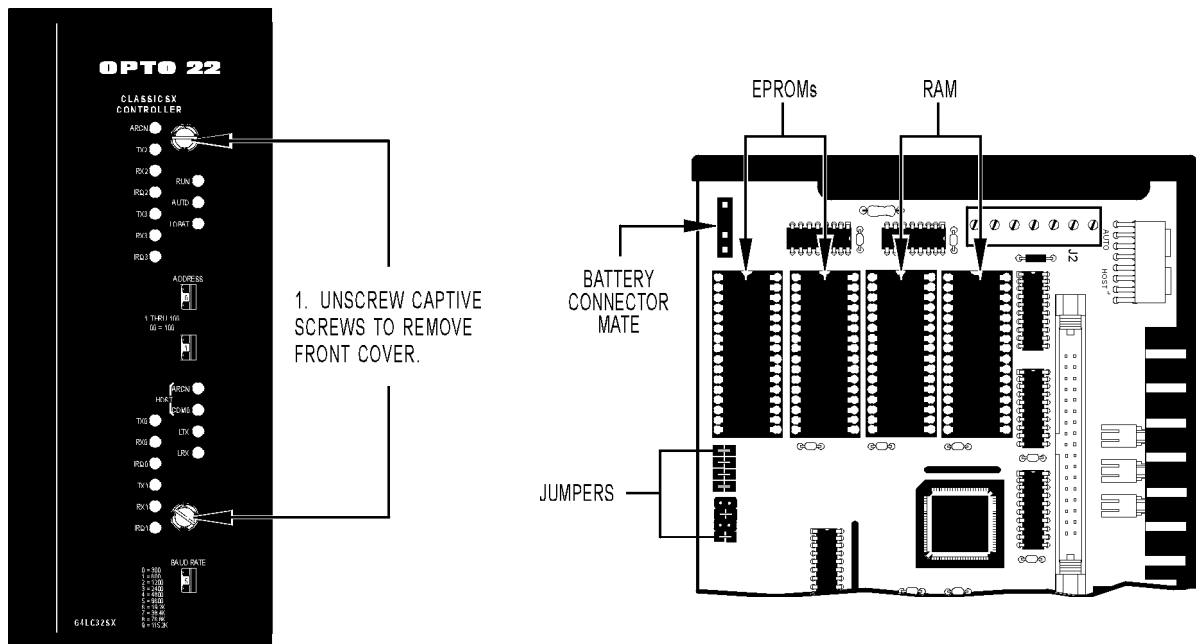

Figure 5-3: Location of RAM and Flash EPROMs
4. Refer to the Figure 5-3 to locate the RAM and EPROM chips.